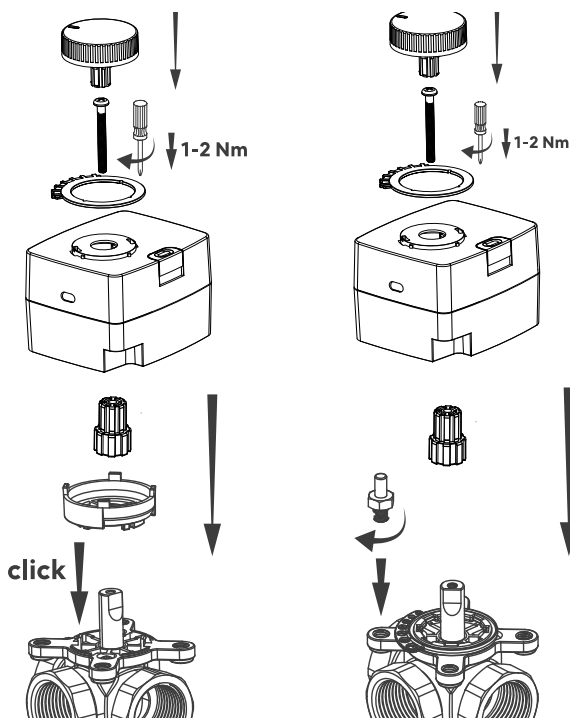

Fig. 2. Mounting the actuator on the valve step by step. A click of the catch means the adapter has seated in its working position
3. Turn the indicator of the adapter to the 45° position and make sure that the handle of the actuator is at 45° as well — see Fig. 2.